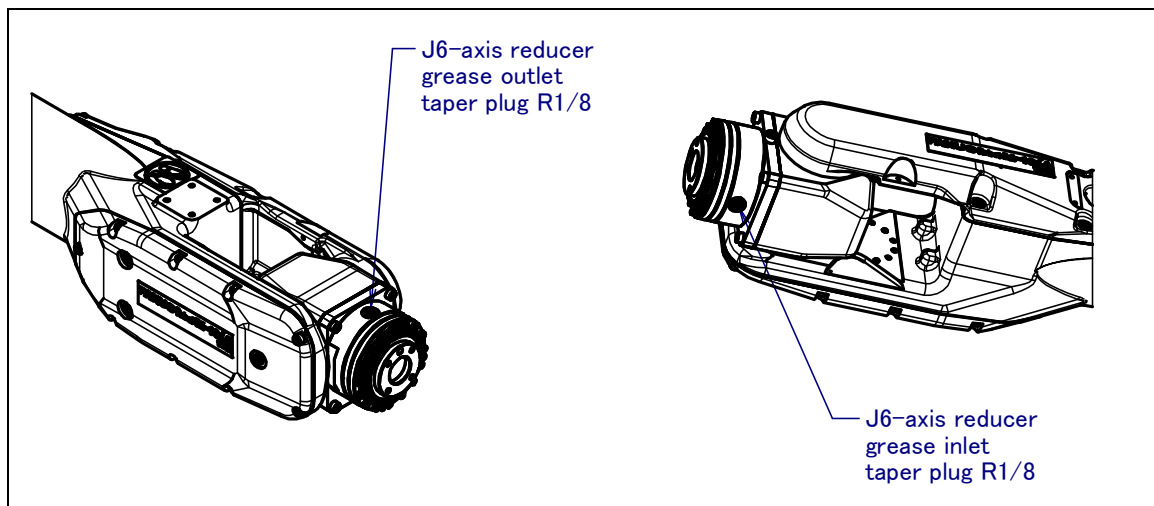

Fig. 8.3.2 J6-axis grease supply position
- 2 See Fig. 8.3.2 and Table 8.3.2 for greasing points and the method.